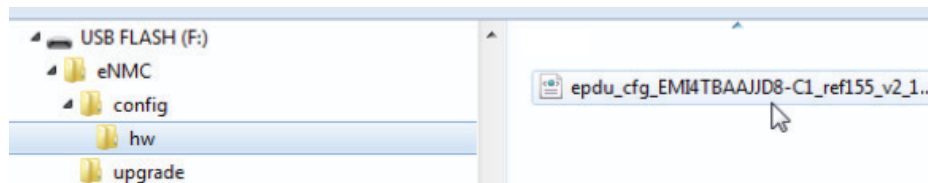

Figure 99. USB Root Directory
18. Select Save eNMC file to save the ePDU hardware configuration file to the USB drive. The file will save to the eNMC/config/hw path at the USB drive root directory (see Figure 99).